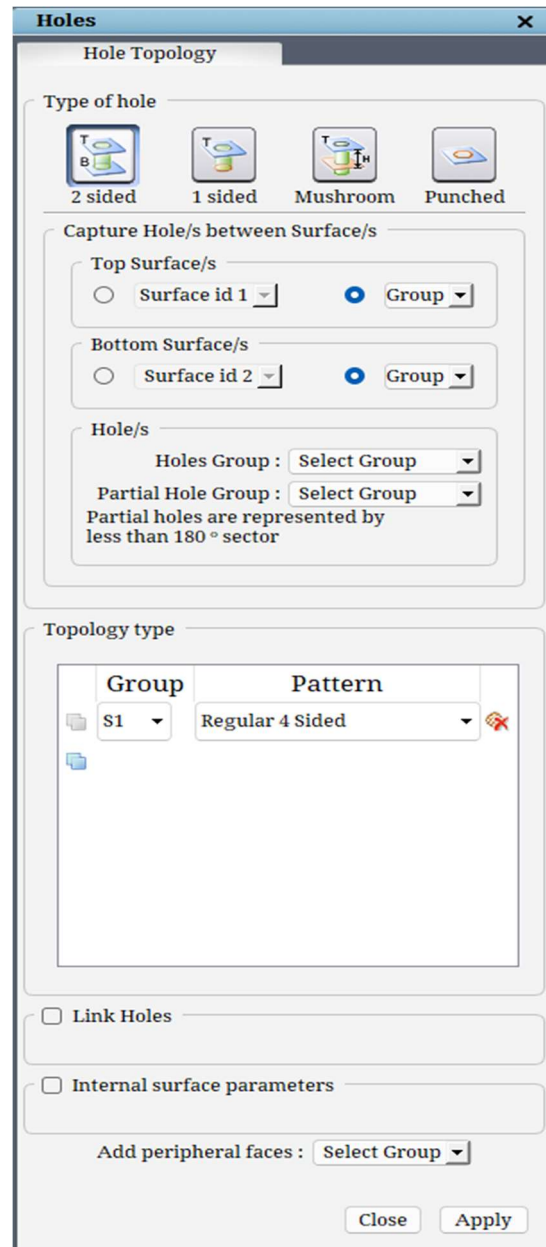
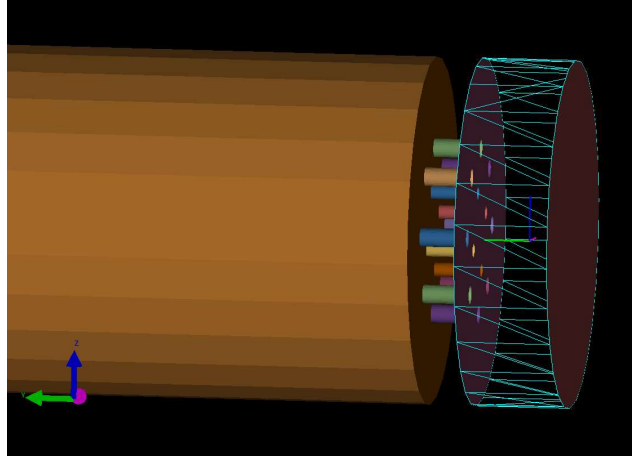

Figure 4.48: Hole topology dialog box
Figure 4.55: Injector Surfaces
**Holes** or **Hole topology** helps in creating topology and internal surfaces automatically. For. E.g., consider an injector that has many pipes connecting two surfaces, as shown in Figure 4.55. In such cases, topology has to be built individually for each pipe using insert and wrap. To ease this process, you can automatically create an individual topology for each pipe using the Holes command located under the *Topology Tools* menu. Clicking on **Holes** will open the dialog box, as shown in Figure 4.48.